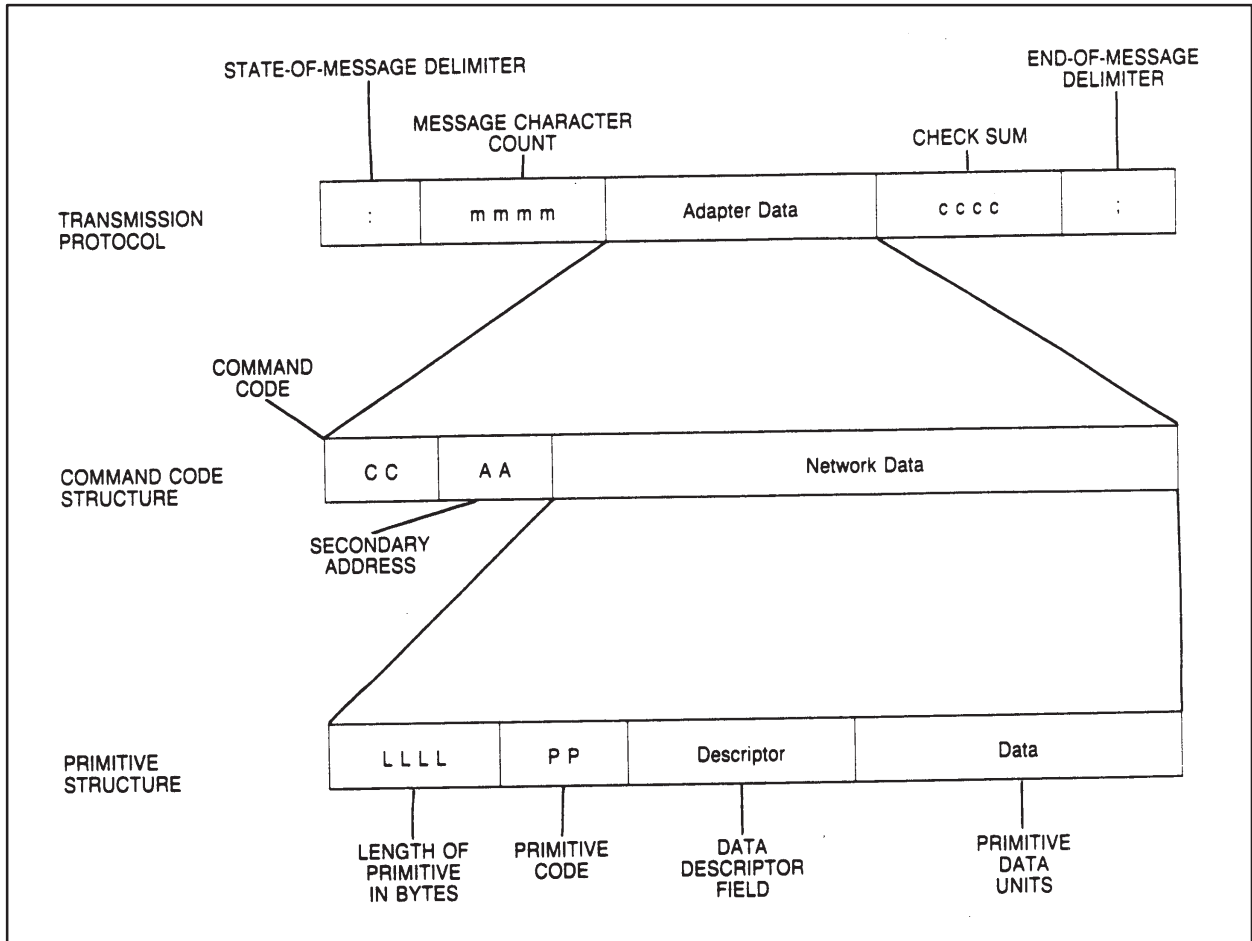

Figure 2-3 Host Adapter Message Structure
5. The NIM takes the instruction, isolates the part it needs, and translates the remainder into a code understandable to the controller. Figure 2-3 shows the Host Adapter Message Structure.